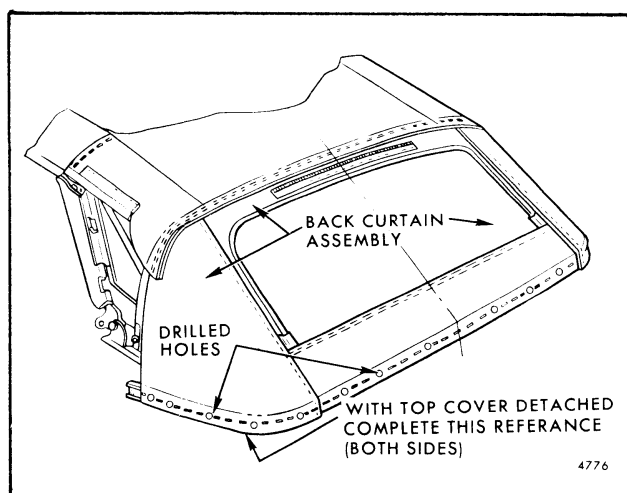

Fig. 8-60-Completing Reference Marking On Back Curtain
8. With staple removing tool, such as narrow screwdriver, detach both sides of top cover from trimstick. Pull top cover upward, and complete marking lower edge reference of trimstick on back curtain (Fig. 8-60).
- C. With back window openings in alignment, accurately transfer trimstick reference to bottom of new back curtain by following along lower cut valance of original back curtain. Use a suitably pointed and legible marking pencil or tailor's chalk (Item "B", Fig. 8-54 and Fig. 8-60).